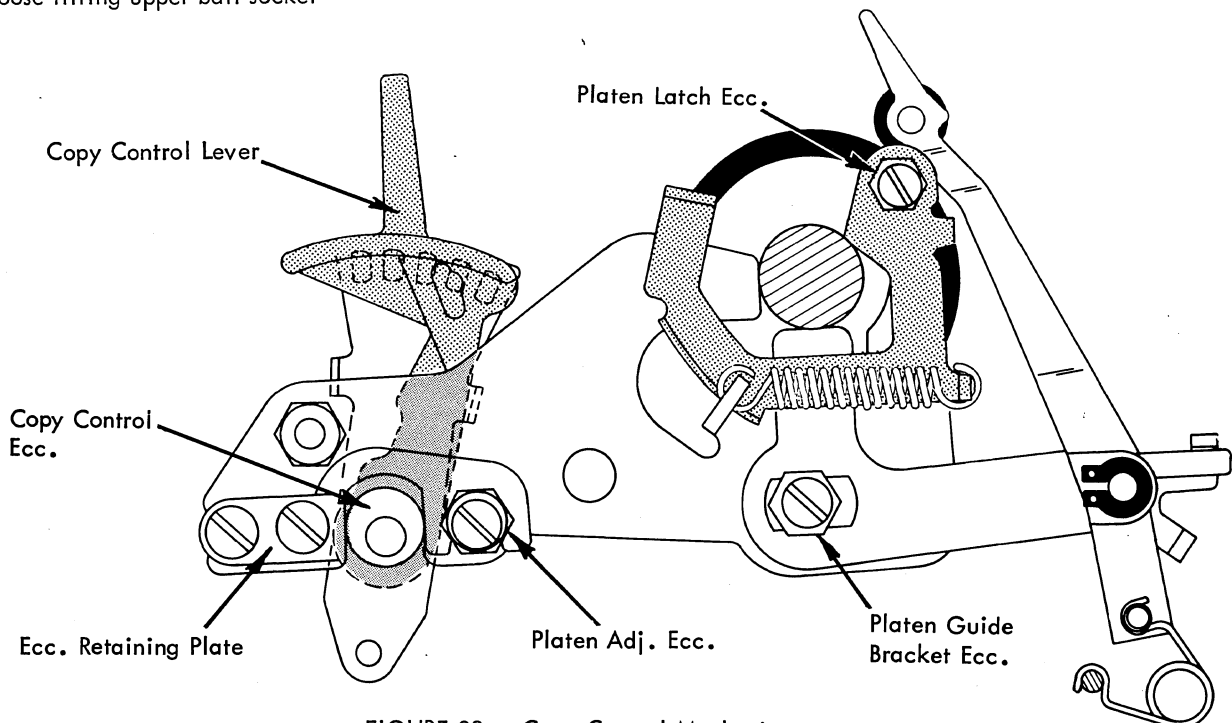
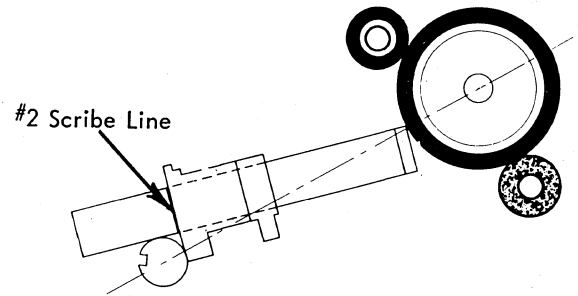

FIGURE 88. Copy Control Mechanism
FIGURE 90. Front to Rear Platen Adjustment
1. Copy Control Lever - With the copy control lever detented in the forward position, the high points of the eccentrics should be vertical (Fig. 88). Adjust the copy control lever on the shaft to satisfy this condition.
2. Eccentric Retaining Plates - For maximum efficiency of the copy control eccentrics, adjust the plate on each side of the machine so that no front to rear play exists between the eccentrics and the retaining plates (Fig. 88). Be sure that no binds exist.
3. Platen Latches - Adjust the platen latch eccentrics with the high part down so that the platen is held firmly in position vertically and horizontally (Fig. 88). The latches should latch and unlatch freely with the feed rolls released.
Adjust the platen guide bracket eccentrics to obtain this condition (Fig. 88). The high part of the eccentrics should be kept to the rear. It is necessary to remove the deflector and front feed rolls when checking the adjustment with the Hooverometer.
- b. Platen Front to Rear - With the head of the Hooverometer set at the #2 scribe line, the tool should just span the distance between the platen and the print shaft as illustrated in Fig. 90. Adjust the platen adjusting eccentrics to obtain this condition (Fig. 88).